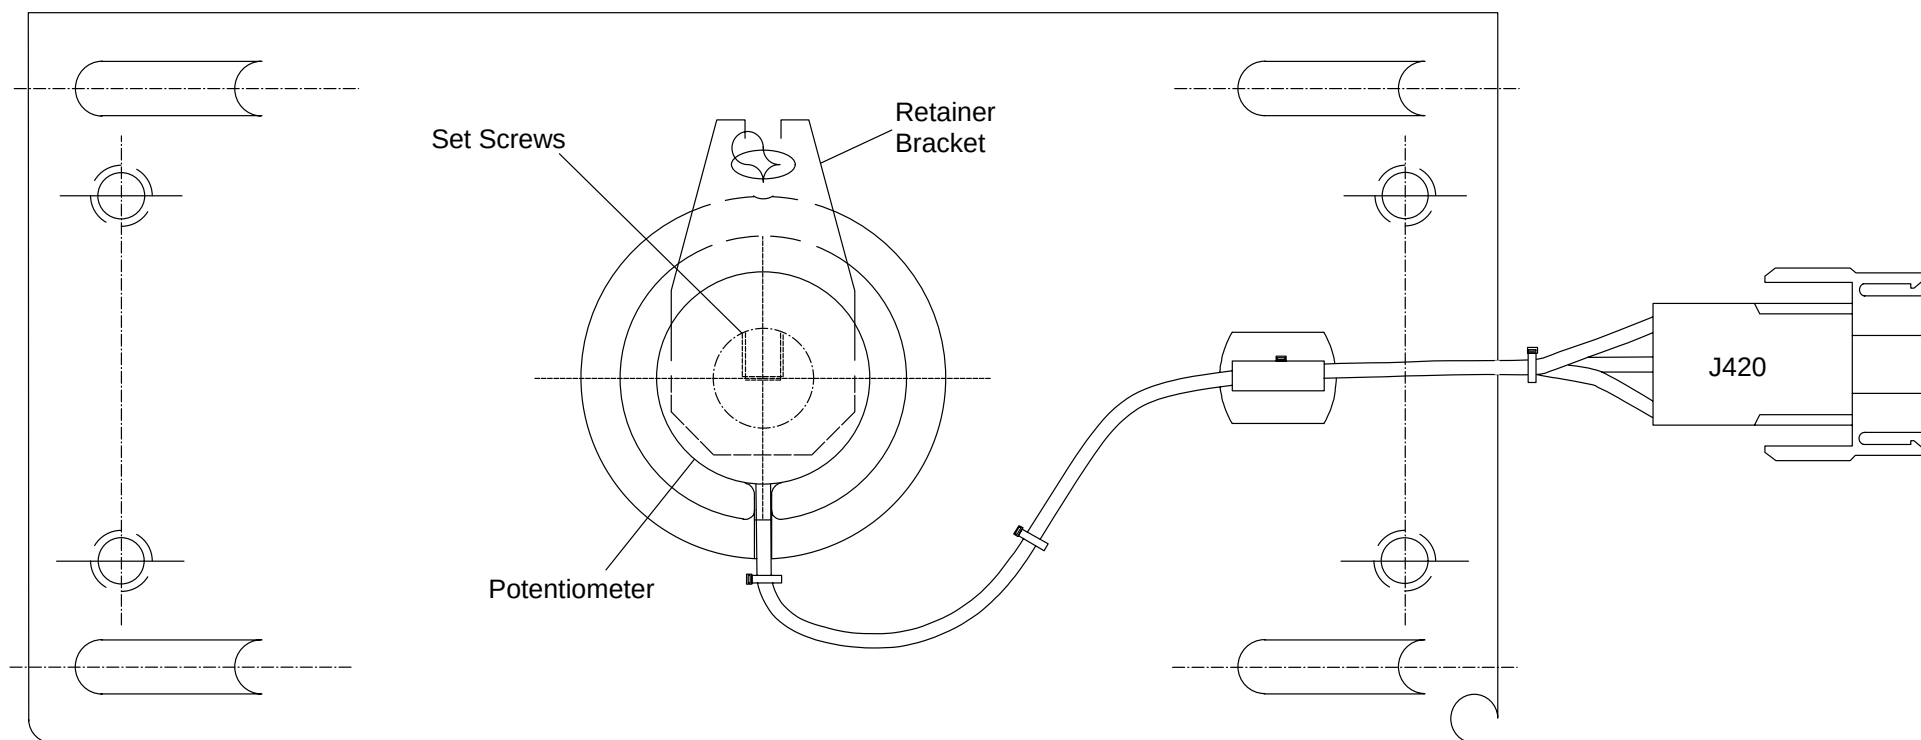

FIGURE 205 HORIZONTAL DRIVE GANTRY END ASSEMBLY
5. Loosen and remove the Pan Head Screw to the Retainer Bracket and the two Set Screws to the Position Pot. Refer to Figure 205.